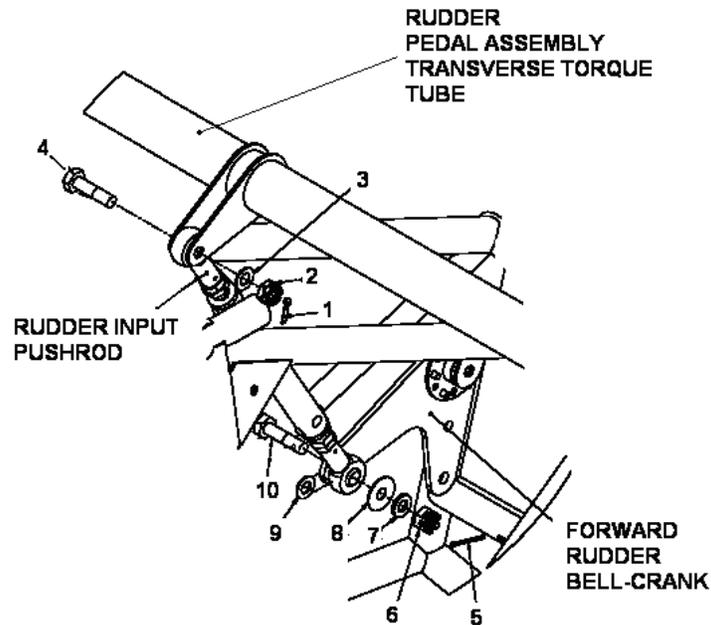

Figure 27-38 Exploded View of the Rudder Input Pushrod
2. See Figure 27-38. Remove split pin (1) and discard. Remove the nut (2), washer (3), and bolt (4) that connects the rudder input pushrod to the rudder pedal assembly transverse torque tube. Separate pushrod from torque tube.
3. Remove split pin (5) and discard. Remove the nut (6), washers (7 -9), and bolt (10). Note positions of washers. Separate input the pushrod from forward rudder bell-crank, and remove the pushrod.